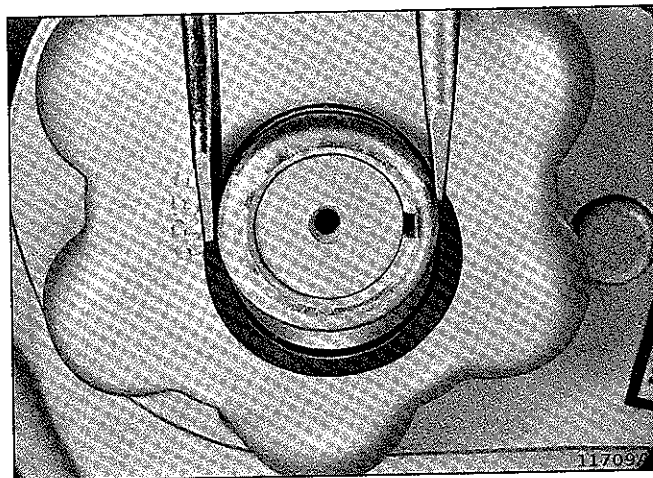

Figure 6-2.
a. Remove snap ring that retains hand wheel on shaft. This can be done with a U-shaped snap ring tool or by holding two screwdrivers in one hand with ends against snap ring as shown in Figure 6-2. Tap on one of the screwdrivers lightly until snap ring comes out of groove.